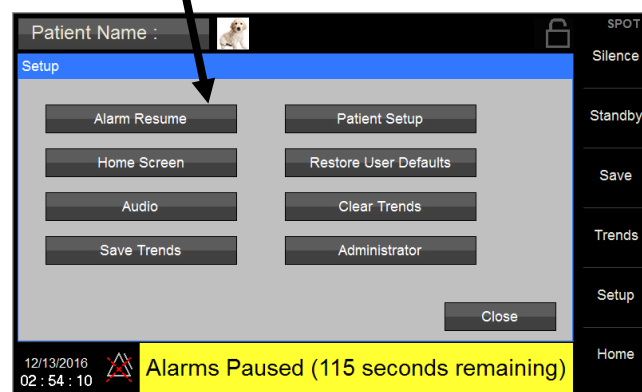

Figure 34: Alarm Pause / Alarm Resume Screens (8015 shown)
- Press the Alarm Pause key to pause all Alarms (Global) (refer to Figure 34).